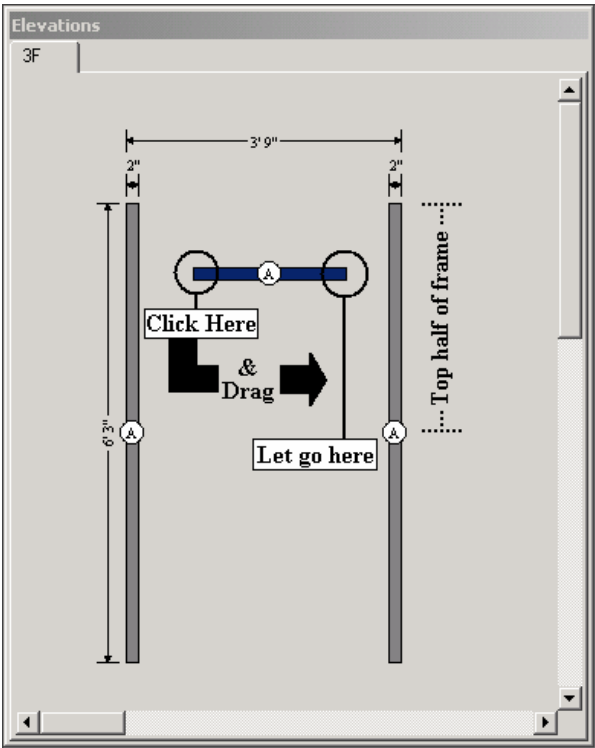
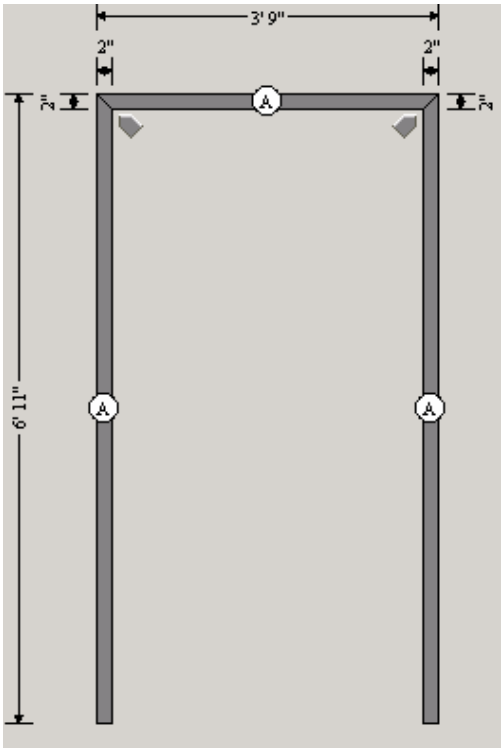

Figure 9
Figure 10
3. Now we will draw the head for our three-sided frame. See figure 9. Click somewhere between the two vertical frames. The mouse should also be pointed somewhere within the top half of the frames. Then drag the mouse to the right. Do not allow the right side of the head to intersect with the right vertical frame. The picture above depicts this operation. After letting go of the mouse, the head will **stretch** to the outside frames. Since the head was drawn inside the top half and inside the vertical frames, the head will position itself at the top of these frames. The completed frame should resemble figure 10 above.